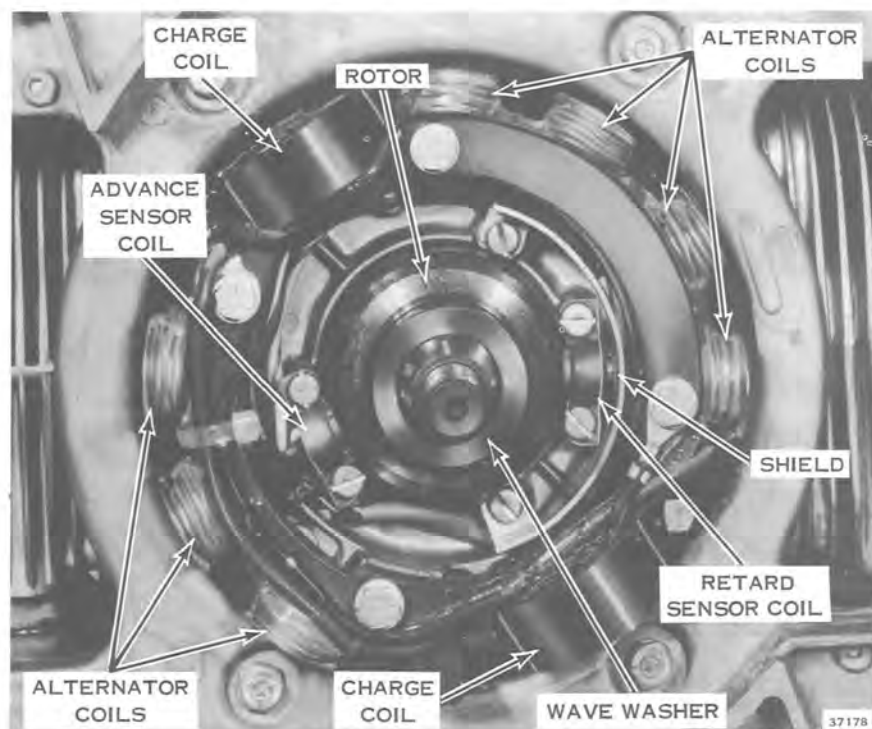

Figure 7-26
- o. The charge coils, alternator coils and sensor coils are now accessible for servicing. See Figure 7-26.
- p. The wave washer and rotor can now be removed. See Figure 7-26.